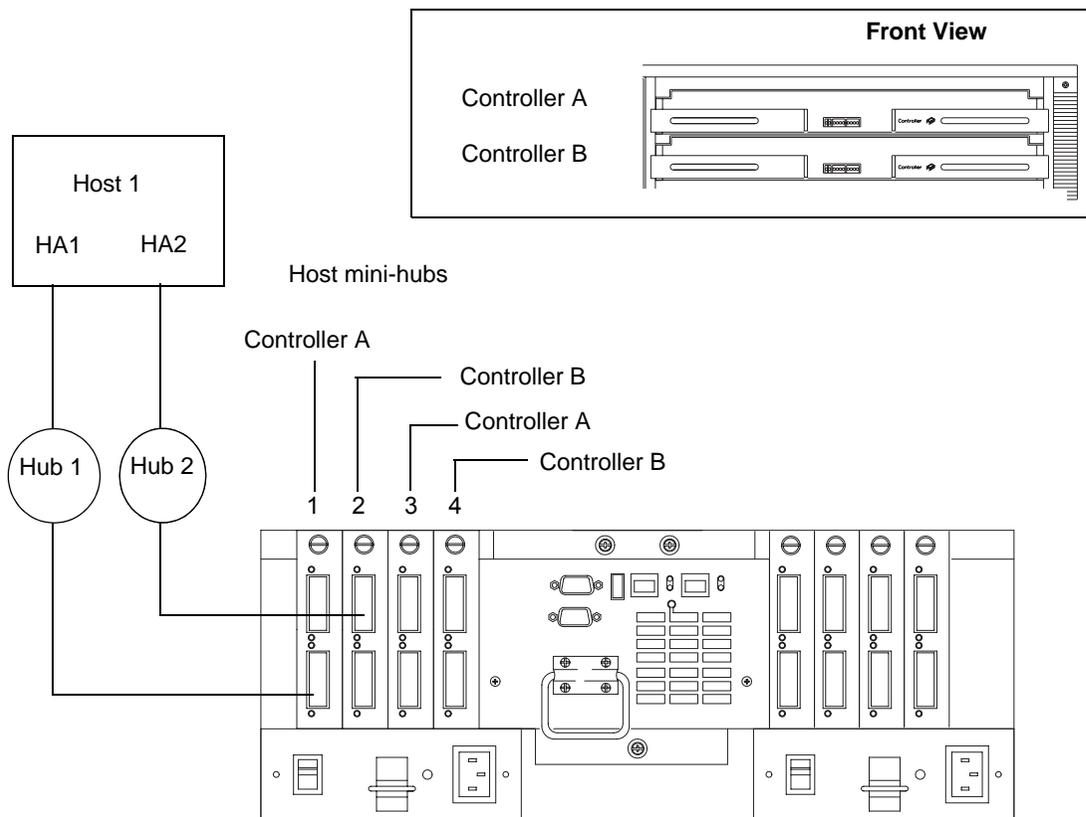

Figure 24. Using managed hubs to connect a host
- 1 Connect the first host (Host 1) to the controller unit, as shown in Figure 24.